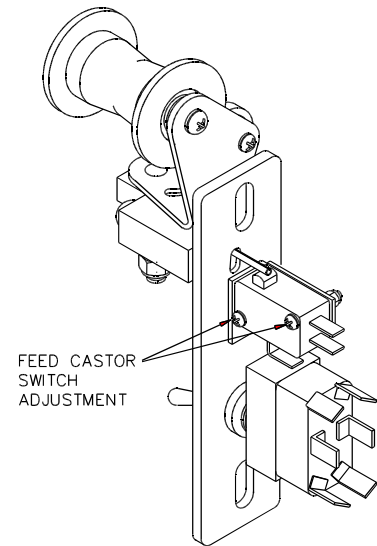

Figure 8
2. The feed castor switch is set correctly if the switch activates (audible click) when the feed castor is half way between its travel limits. If adjustment is required, the feed castor must be removed from the column and adjusted from the back side (Figure 8).